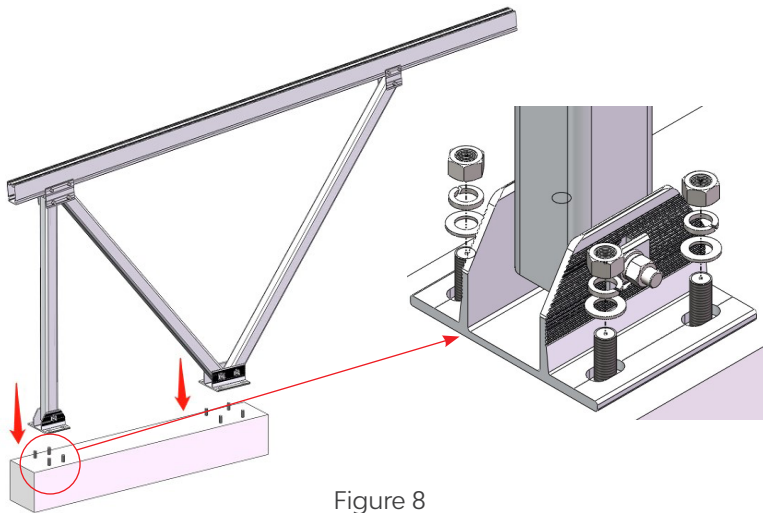

Figure 8
5.1.4 Insert the assembled support into embedded bolts. Align the embedded bolts with the holes on the T-Base, put on the spring washer, flat washer and nut, manual locking as shown in Figure 8.